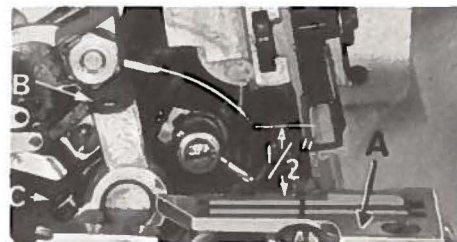

Fig. 3
With throat plate assembled in position, needle should center in the front end of needle slot. When needle is at high position, needle point should be set 1/2 inch above throat plate (A, Fig. 3). To align needle or set the height above the throat plate, move needle driving arm (B, Fig. 3) by loosening clamp screw (C). After needle has been properly set tighten clamp screw (C) and remove throat plate.